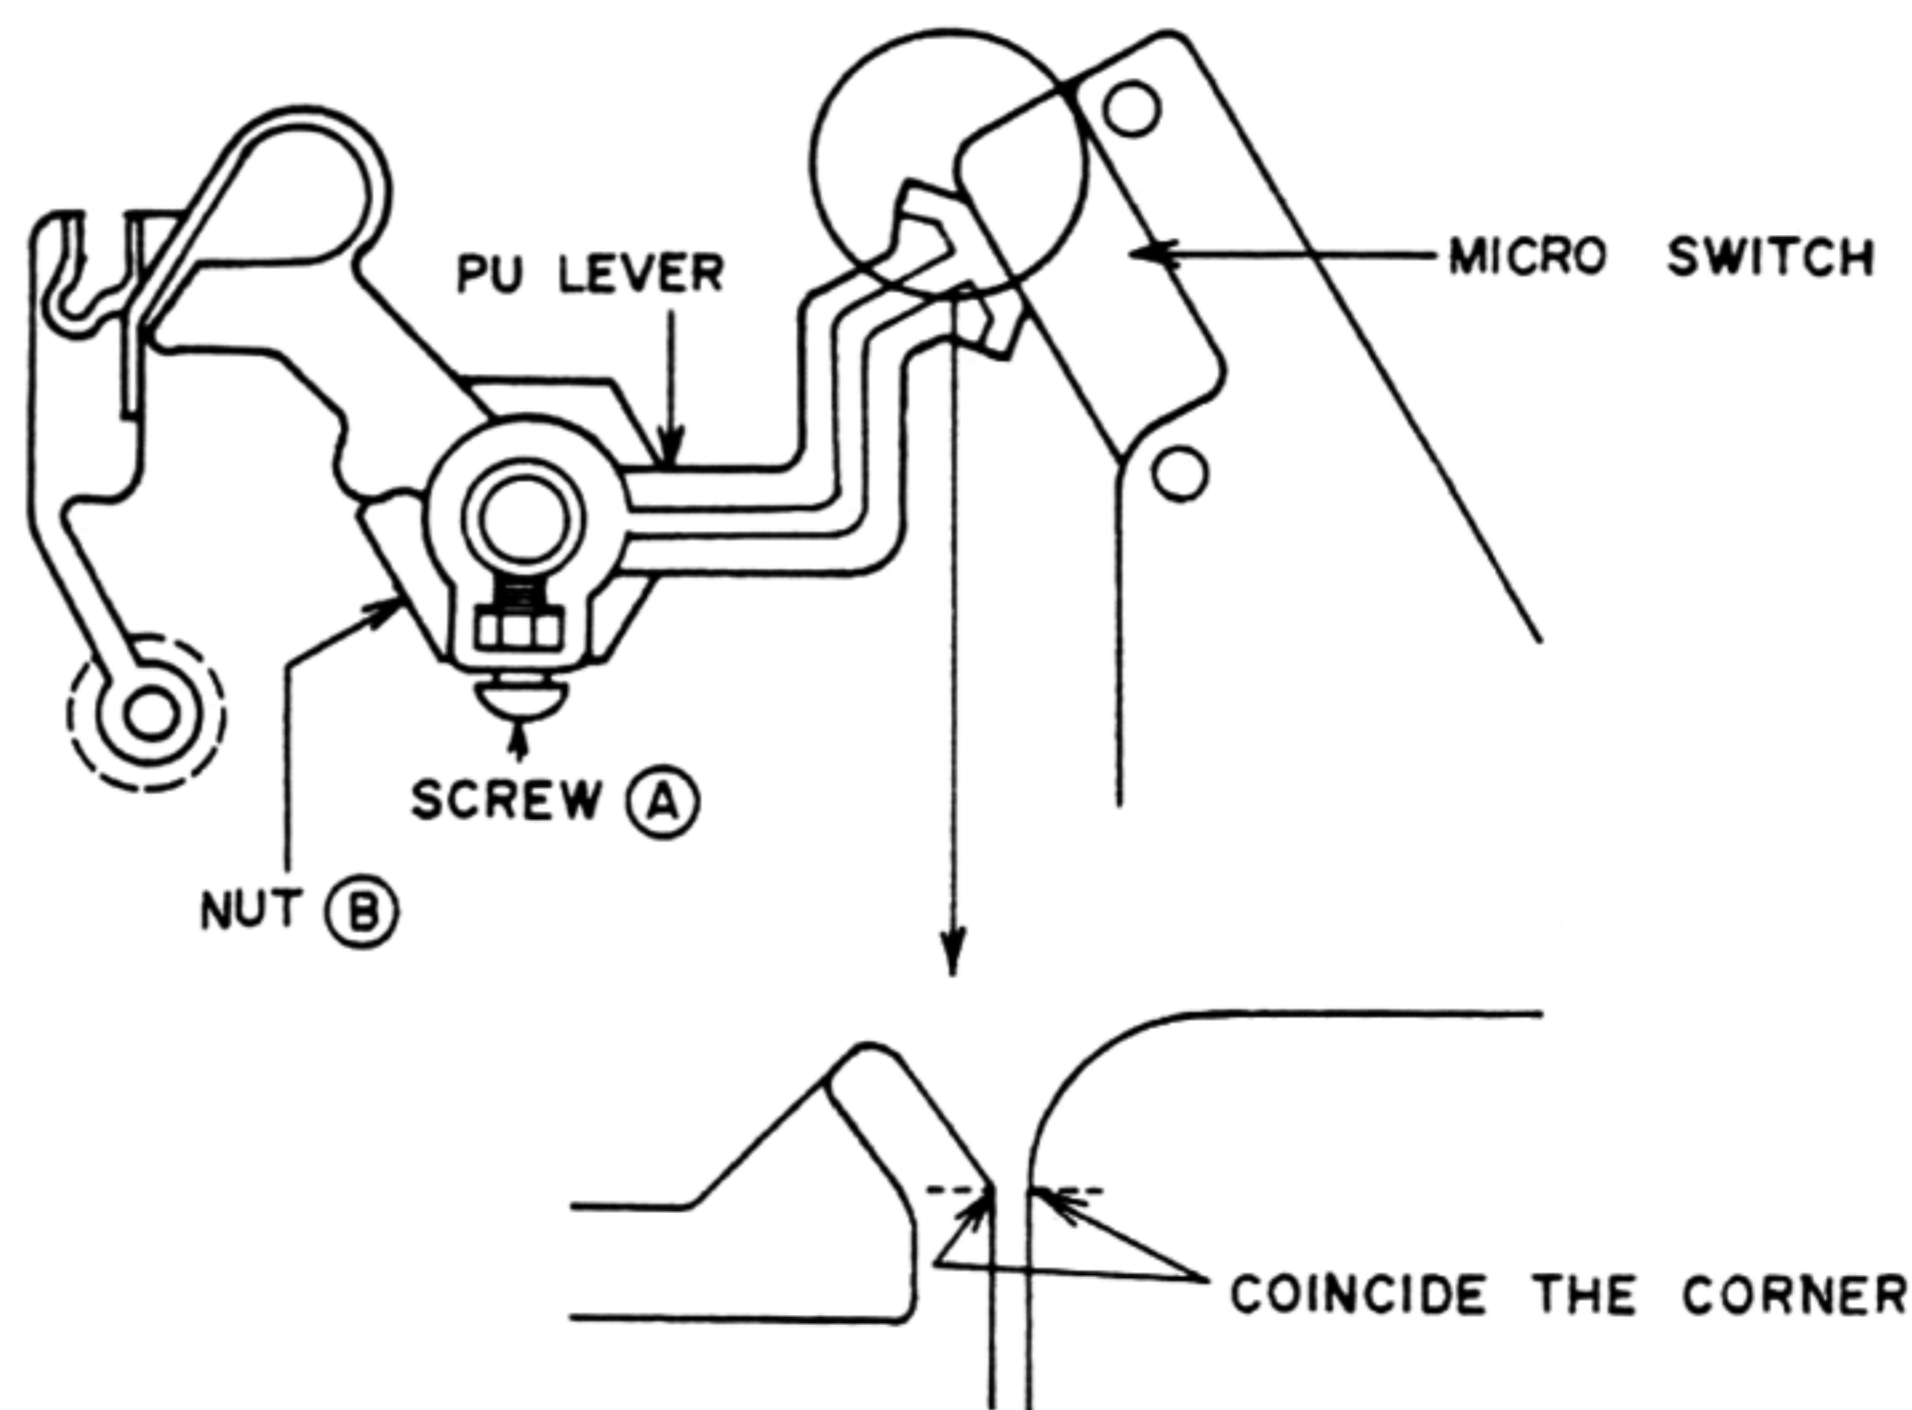

Fig. 7-4
**7-3 RETURN ARM POSITION ADJUSTMENT (Refer to Figs. 7-4 & 7-5)**
- 2) Loosen the Screw (A), and confirm that the PU LEVER is installed all the way in the Nut (B).
- 3) Turn the PU LEVER so that the corner of those PU LEVER and Micro switch are coincide as shown in Fig. 7-4.
- 4) Tighten the Screw (A).